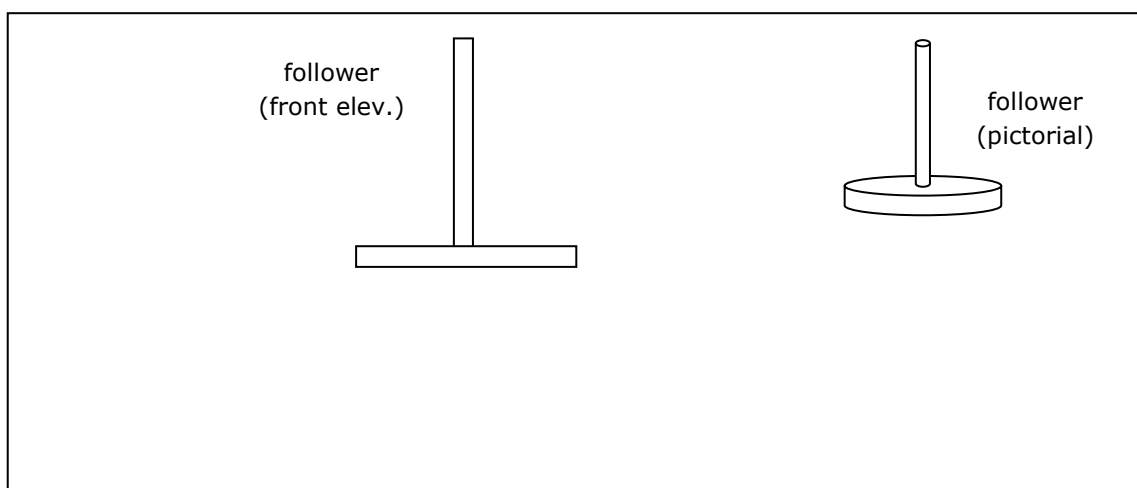

Figure 8
Complete the front elevation in Figure 8 to show how the cam and camshaft need to be positioned in order to achieve the rotation and reciprocation of the follower. (3)